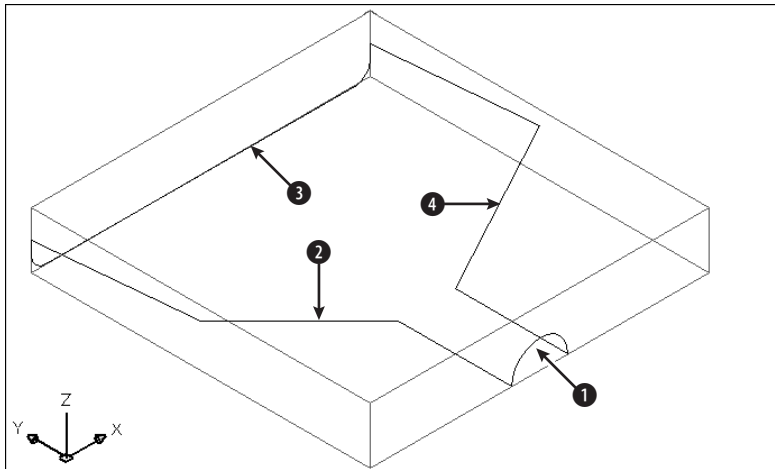

Figure 23-37: The four curves are the basis for creating an edge surface.
2. Save it as `ab23-07.dwg` in your AutoCAD Bible folder. You see four curves in a bounding box, as shown in Figure 23-37. In this exercise, you use the curves to draw a dustpan.
4.  Choose Edge Surface from the Surfaces toolbar. At the prompts, select ❶, ❷, ❸, and ❹ in Figure 23-37.